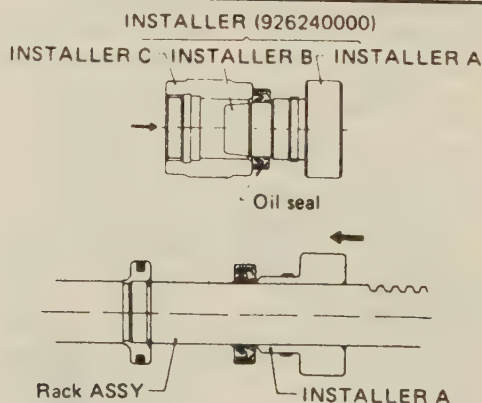

FIG. 71 Assembling the rack seal using special tools — power steering
b. Using special seal installer tools (926240000 or equivalent) attach the oil seal to the tool (refer to FIG. 71 for position).